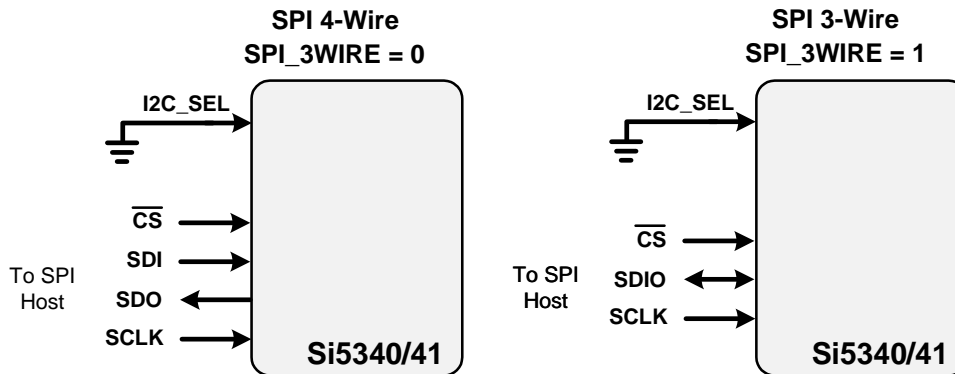

Figure 18. SPI Interface Connections
Data is transferred MSB first in 8-bit words as specified by the I²C specification. A write command consists of a 7-bit device (slave) address + a write bit, an 8-bit register address, and 8 bits of data as shown in Figure 18. A write burst operation is also shown where subsequent data words are written using to an auto-incremented address.
When in SPI mode, the serial interface operates in 4-wire or 3-wire depending on the state of the SPI_3WIRE configuration bit. The 4-wire interface consists of a clock input (SCLK), a chip select input (CS), serial data input (SDI), and serial data output (SDO). The 3-wire interface combines the SDI and SDO signals into a single bidirectional data pin (SDIO). Both 4-wire and 3-wire interface connections are shown in Figure 18.